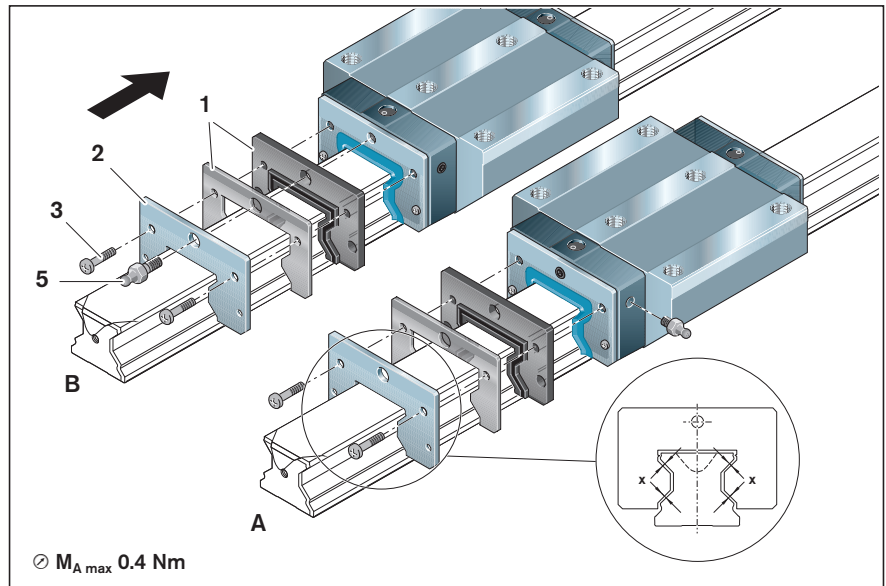

Fig. 53: Mounting the FKM seal kit with metal scraper, sizes 25-55
- Secure at the top using the 2 screws (3) provided ➡ Fig. 53.